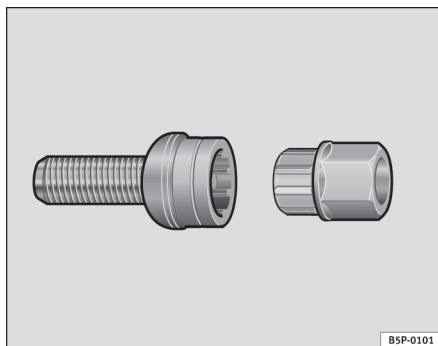

Fig. 130 Anti-theft wheel bolt
- Insert the adapter onto the wheel bolt and push it on as far as it will go ⇒ **fig. 130**.